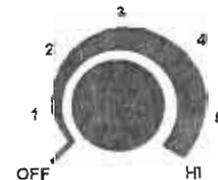

Figure 1-3. Intensity control.
b. *Intensity control (fig 1-3).* Each of the two intensity controls is a seven-position rotary switch used to control lamp illumination from "OFF" to "HI" levels of illumination.